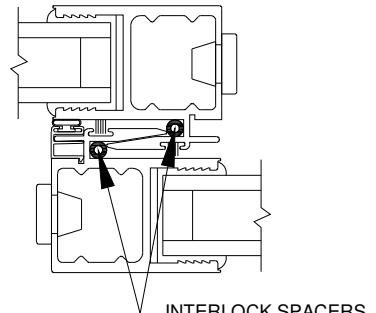

Figure 19:
4. Repeat steps 2-3 until all panels have been installed. Panels must overlap during installation to allow proper engagement of interlockers (Figure 19).